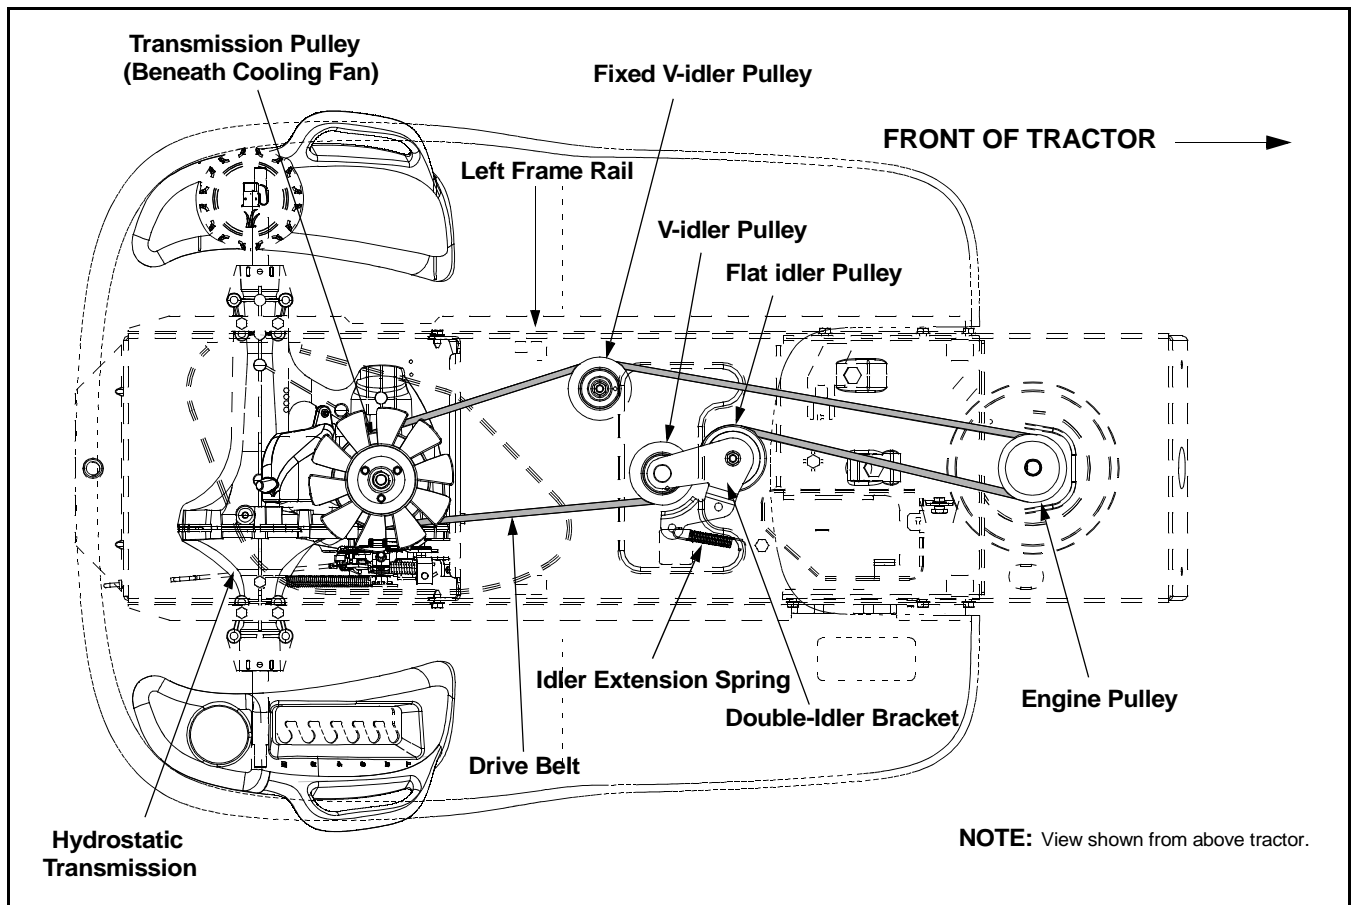

Figure 28
- Locate the fixed v-idler pulley found on the left underside of the frame. See Figure 28.
- Grasp the belt on each side of the pulley and carefully move it toward the left frame rail, then downward to disengage the belt fixed idler pulley. See Figure 28.
- Remove the drive belt by feeding it from front to rear, toward the hydrostatic transmission. See Figure 28.
**IMPORTANT:** Note the routing of the drive belt both on the tractor and in Figure 28 BEFORE performing the following steps.
- Install the new belt routing it **EXACTLY** as the old one was routed. Refer to Figure 28.